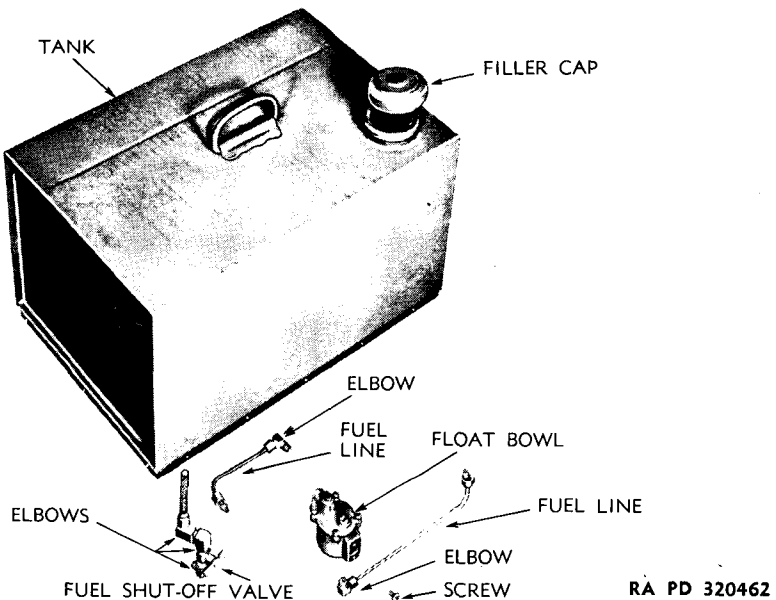

Figure 48 — Fuel Tank, Controls, and Lines, Partially Disassembled
d. **Float Bowl Assembly** (fig. 48). Remove fuel lines and blow out thoroughly. Remove four cover screws and inspect needle valve, seat and float mechanism within the bowl. Clean bowl carefully and reassemble, using new cover gasket. Reconnect fuel lines.
e. **Fuel Filter** (fig. 48). Remove fuel valve and strainer from bottom of fuel tank. Clean strainer thoroughly in gasoline, and be sure no gummy deposit prevents fuel passage through strainer. Check shut-off valve and reassemble to tank.
d. Install Fuel Tank (fig. 48). Position fuel tank assembly on base, and install 13 fuel tank attaching screws. Connect fuel line at shut-off valve under tank. Open fuel valve. Install rear cover with 10 cross-recessed sheet metal screws.